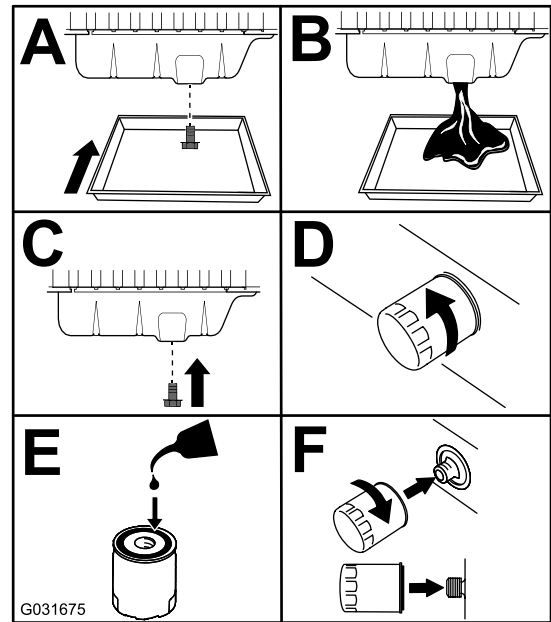

Figure 85
3. Replace the engine oil and filter (Figure 85).